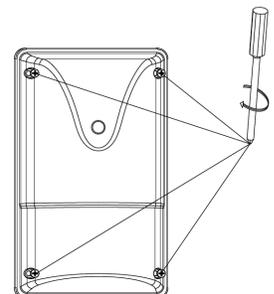

Fig. 6
7. Secure luminaire with the 4 screws (Fig. 6).